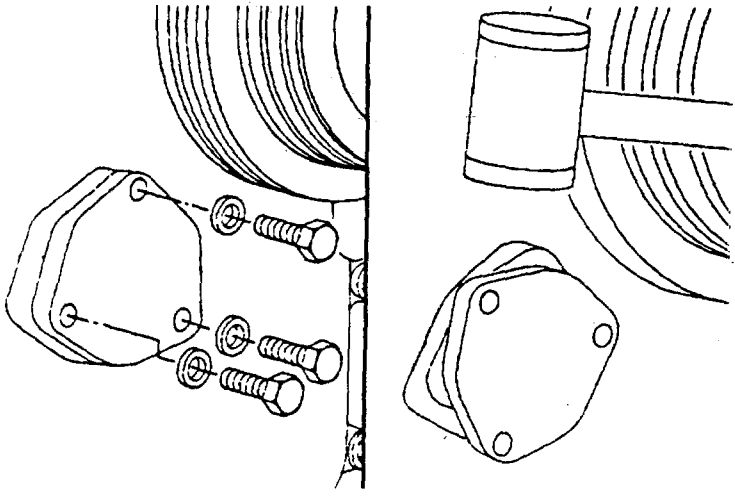

FIGURE 3-39. Camshaft Bearing Support.
- (2) Use a rubber or plastic hammer to rotate the bearing support approximately 60 degrees (Figure 3-39).